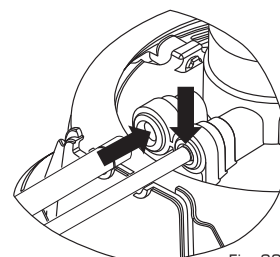

Fig. 23
5. **Insert** the GREEN and BLUE tubes attached to the **eSpring** Auxiliary Faucet into their proper locations on the Bracket (Fig. 23).